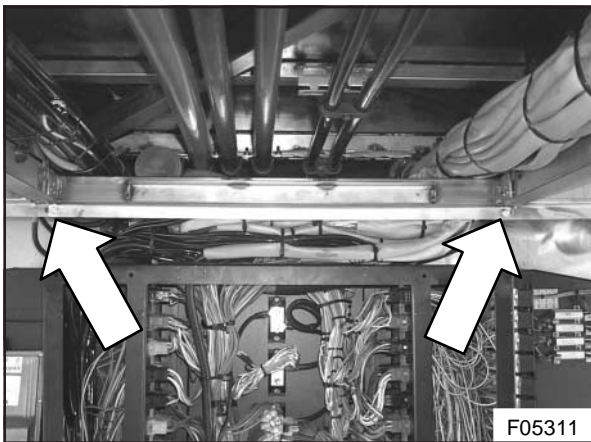

Figure 3 : Location of top center access panel locking bracket bolts
2. Above the center section of the main junction box, undo and remove the two 6 mm bolts and nuts securing the top center access panel locking bracket to the top outer locking brackets (see Figure 3). Remove the center bracket.